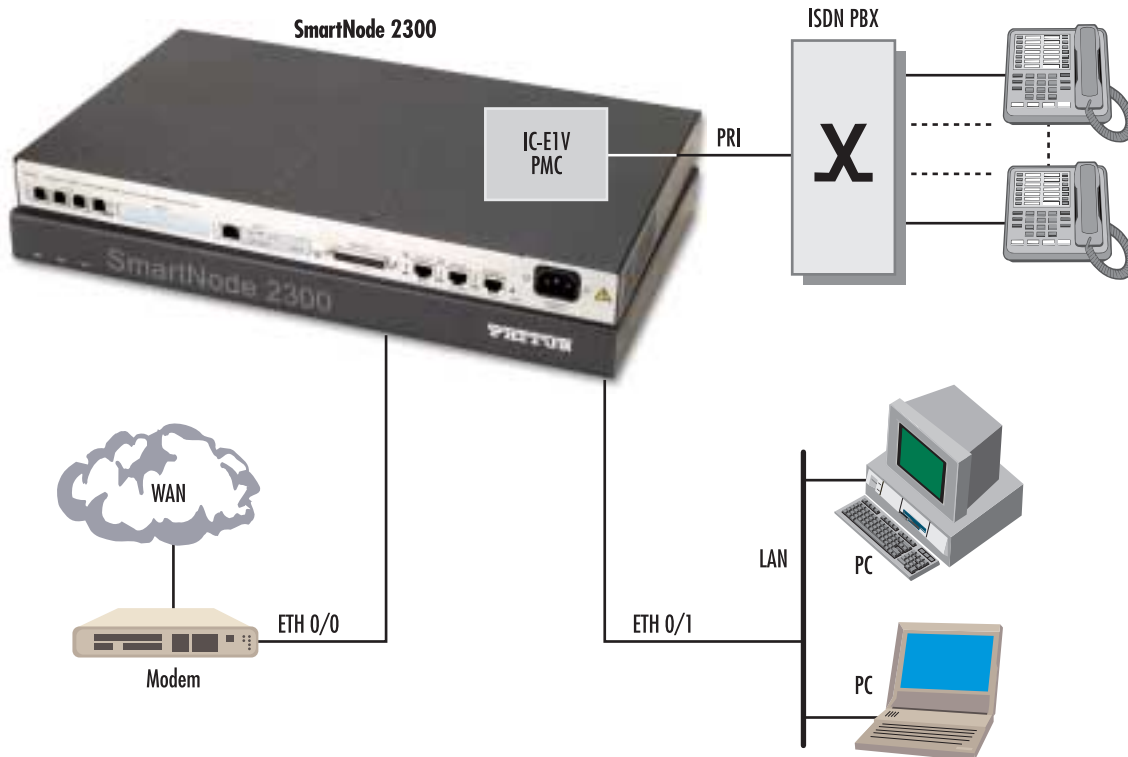

Figure 32. SmartNode 2000 Series device connected to a PBX via one PRI (with IC-E1V card) into an IP network
In figure 32 the SmartNode 2000 series with an optional IC-E1V interface card installed is used as a voice gateway and IP router in a company headquarters.
- Figure 32 on page 53